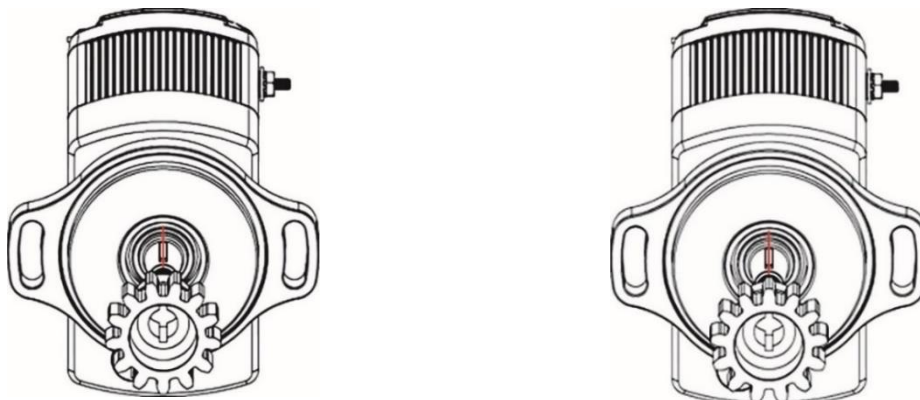

Figure 4: Normal Drive Gear Orientation Figure 5: Alternate Drive Gear Orientation
NOTICE: The drive gear fits on the EIS shaft in one of two orientations. A normal installation will align a gear tooth valley with the woodruff key on the EIS shaft (Figure 4). If you have difficulty timing the EIS to the engine in further steps, it may be necessary to remove the drive gear from the EIS and re-install it 180° on the shaft as shown in the alternate orientation (Figure 5).
2. Install the drive gear (magneto gear) on the EIS driveshaft in the normal orientation (Figure 4).